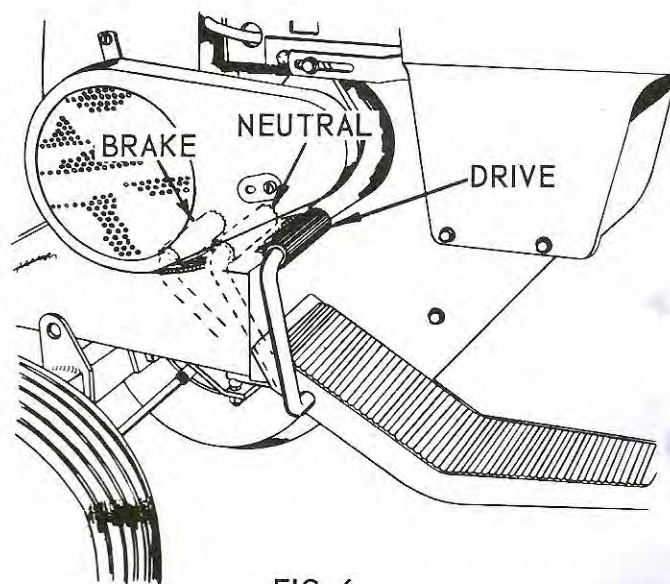

FIG. 6
3. Your tractor is equipped with a safety start switch. It is therefore necessary to depress foot pedal all the way down (forward), refer to Fig. 6, before engine can be started.